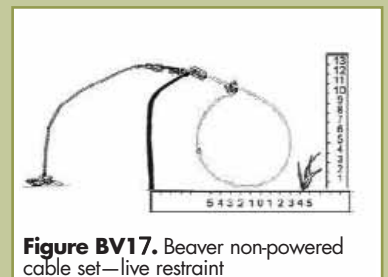

Figure BV17. Beaver non-powered cable set—live restraint
- Selectivity Features: A 9 to 10 inch diameter loop was set resting on the ground perpendicular to the line of travel of an approaching beaver, and supported with a guide stick or wire (Figure BV17).